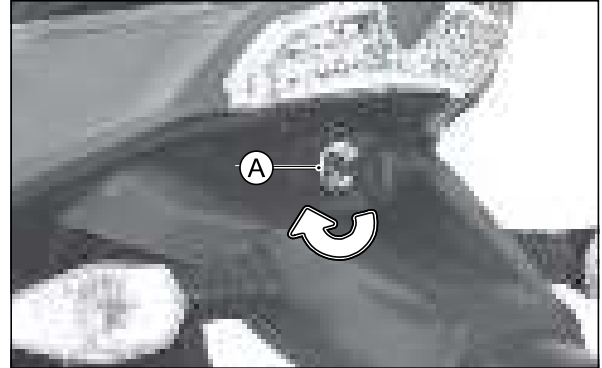

Fig. 2.1
- Insert the ignition key into the seat lock (A).
- Turn it in clockwise, lift the seat from the rear end and slide it backward to remove. (Fig. 2.1)